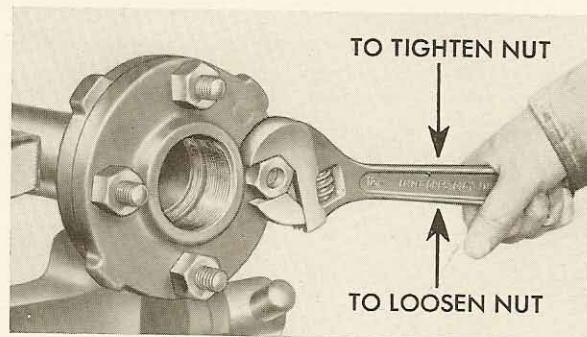

FIGURE 8-29
44. CORRECT APPLICATION OF A WRENCH: Figure 8-29 shows the right and wrong way to tighten a right-hand nut with a wrench.